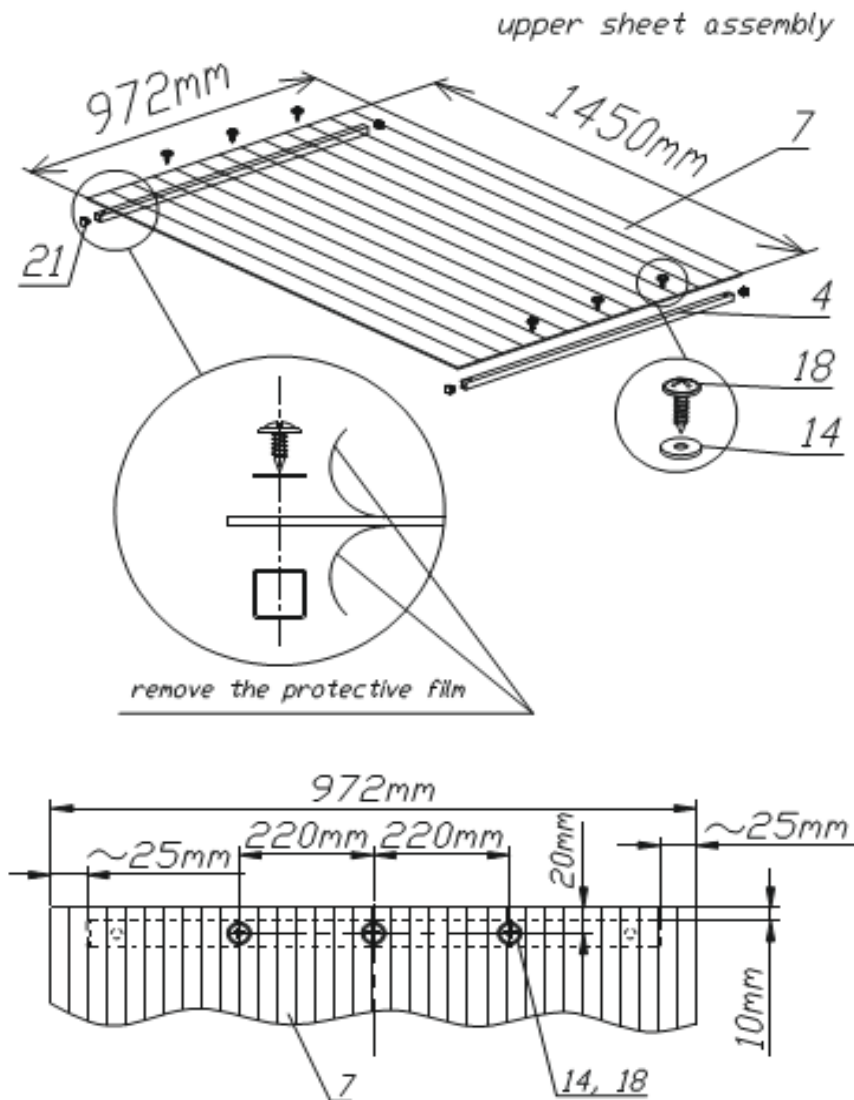

Fig. 7 Two handles-planks
5.1 Take the cellular polycarbonate with a size of 972x1450 mm (Position 7), remove the protective film by 10 cm from both edges with open cells. Place the sheet front side down on the handles-planks (Position 4). Set according to the size (Fig. 7).
5.2.1 Screw the polycarbonate to the handle-plank (Position 4) with 3 self-tapping screws of 4.2×19 (Position 18), while putting the washer (Position 14) (Figure 7). Plug the edges of the handle-plank (Position 21).